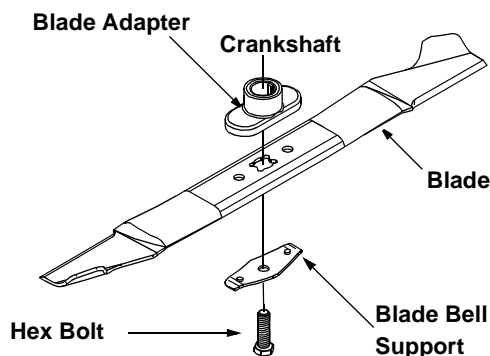

Figure 16
- Remove the bolt and blade bell support which hold the blade and adapter to the engine crankshaft. See Figure 16.
- Install the blade adapter on the crankshaft with the "star" away from the engine. See Figure 16.
- Insert the hex bolt through the blade assembly. Figure 16 shows the correct order of assembly.